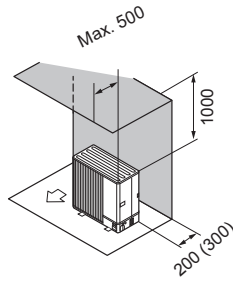

Fig. 1-7
- ② Obstacles at rear and above only (Fig. 1-7)